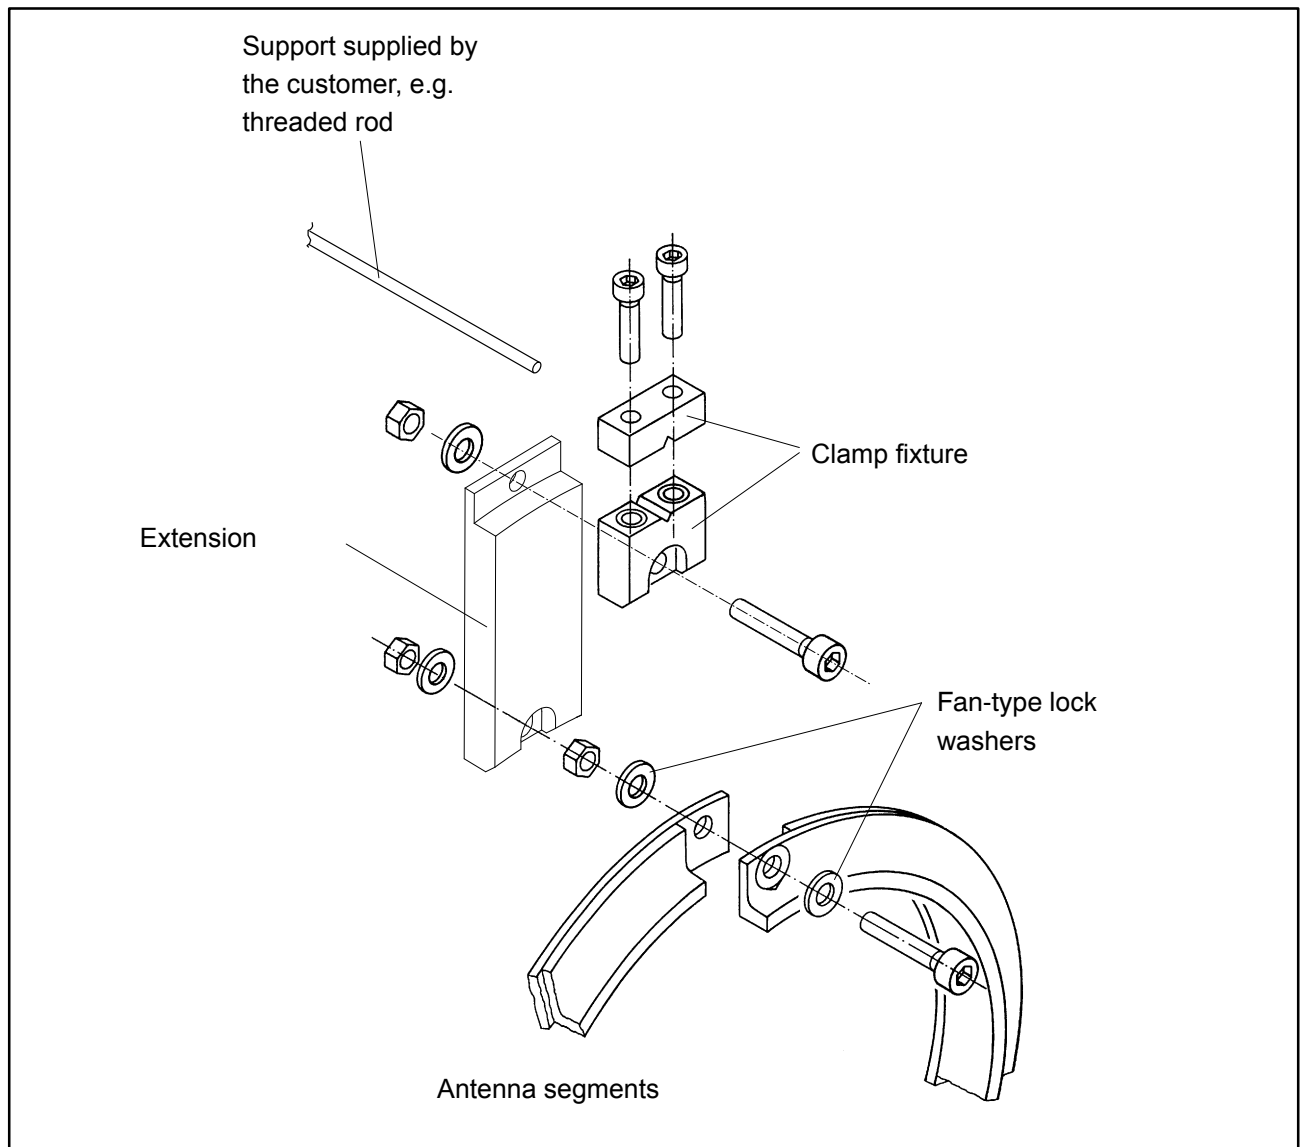

Fig. 4.7: Installing the clamp fixture
2. Screw the clamp fixture to the extension as shown in Fig. 4.7.
3. Fasten the clamp fixture and extension with the enclosed screw fitting to the antenna segment as shown in Fig. 4.7. It is essential to use the new fan-type lock washers!